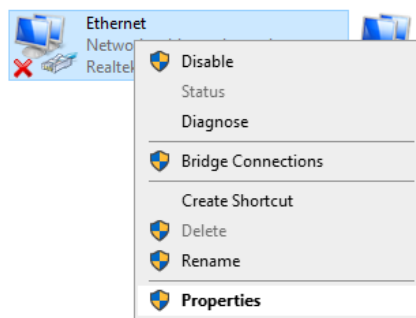

Fig. 5
The first screen (Fig. 5) is the username and password authentication page.
5. Click on "Change adapter options". A tab with all the network resources will appear (Fig.5).